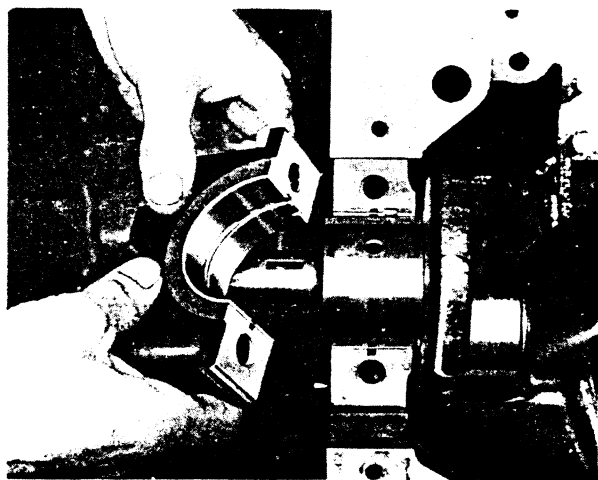

FIG. 45
4. Locate bearing liner in centre cap and the two lower thrust washers on either side, with oil grooves outwards. Smear crankshaft journal with engine oil and mount cap so that locating notches for upper and lower bearing liners are on same side—see Fig. 45 illustrating similar mounting for front bearing.
6. Locate bearing liner and mount front cap so that upper and lower locating notches are on same side, as shown in Fig. 45. Check for "tight spots."